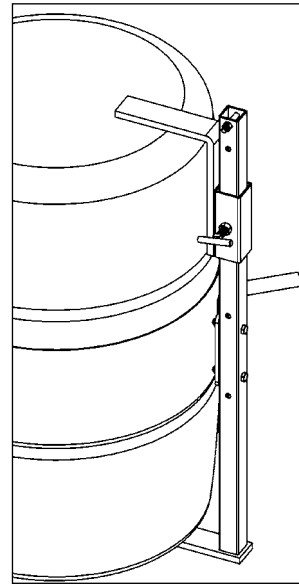

Figure 2.1
- The **Bracket Assembly** (Kit # 4556SS-P) is **required** to handle a plastic drum without a top rim (see figure 2.1). It is also recommended to more securely handle a fiber drum. You can use the Bracket Assembly with a 55-gallon plastic, steel or fiber drum. The brace at top and bottom of the drum prevent it from slipping lengthways through the drum holder. It adjusts for a drum 31" to 39" (79 to 99 cm) tall.